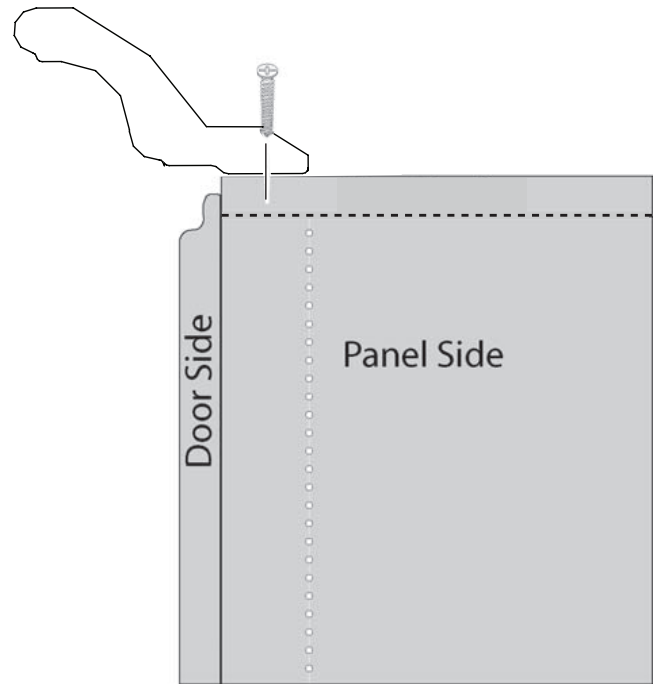

Fig. 11
11. Pre-drill each screw location to fasten molding to tower/shelving. Screw in the molding through predrilled holes in each corner and along the length where needed (approx. every 12"-14"), using #8 x 1-1/4" screw (Fig. 11).